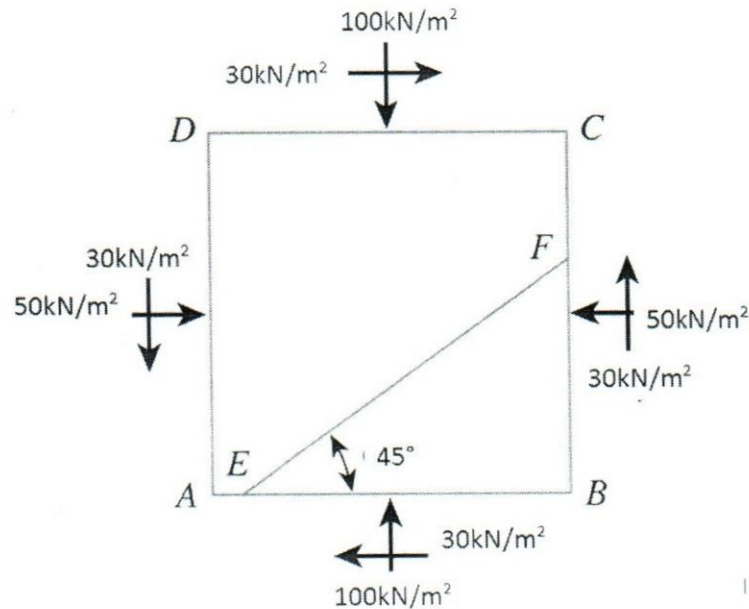

Figure 4
a) For the stressed soil element shown in Figure 4, draw a Mohr's circle and determine